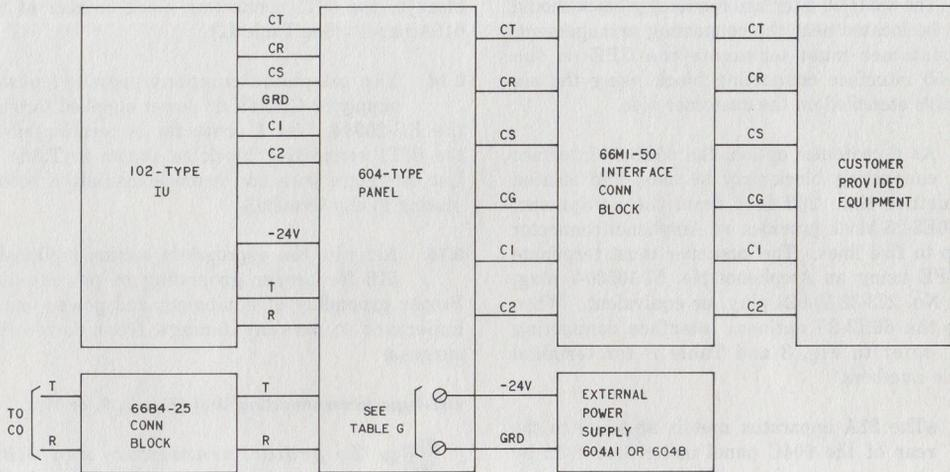

Fig. 7—Block Diagram—102-Type Interconnecting Unit With 604-Type Panel
**3.06** If an external telephone company-provided power supply is used (604A1, 604B or 604C only), or CP dc power supplied through the KS-20944 protector, connect to fuse panel on rear of 604A1, 604B, and 604C as shown in Fig. 7 and Table G (use 16-gauge or equivalent twisted pair). The 604A, 604B, and 604C panels operate on externally supplied -24 volts. The 604B can be adapted to -48 volt operation by putting the option straps in the down position. The 604C can be adapted to -48 volt operation by adding a 21A apparatus unit and putting the option straps in
**3.25** ◆When voltage protection is required, the KS-20944 protector must be mounted externally and wired to the power supply terminals of the 604-type and 615A panel. (See Fig. 7 and 8.)